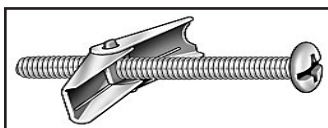

Figure 4.9 3/16 Toggle-Bolt Anchor
- For every mounting hole that does not align with a structural framing member, a wall board toggle-bolt anchor must be used. See Figure 4.9.